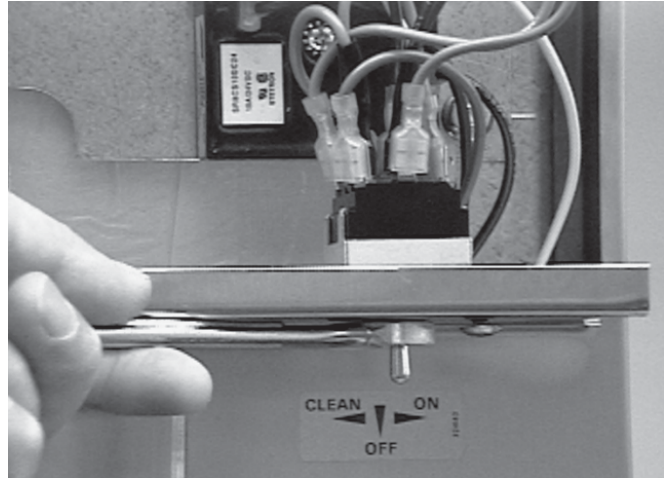

Figure 25. Switch Removal
3. Remove the retaining nut and push out through the hole. Figure 25.